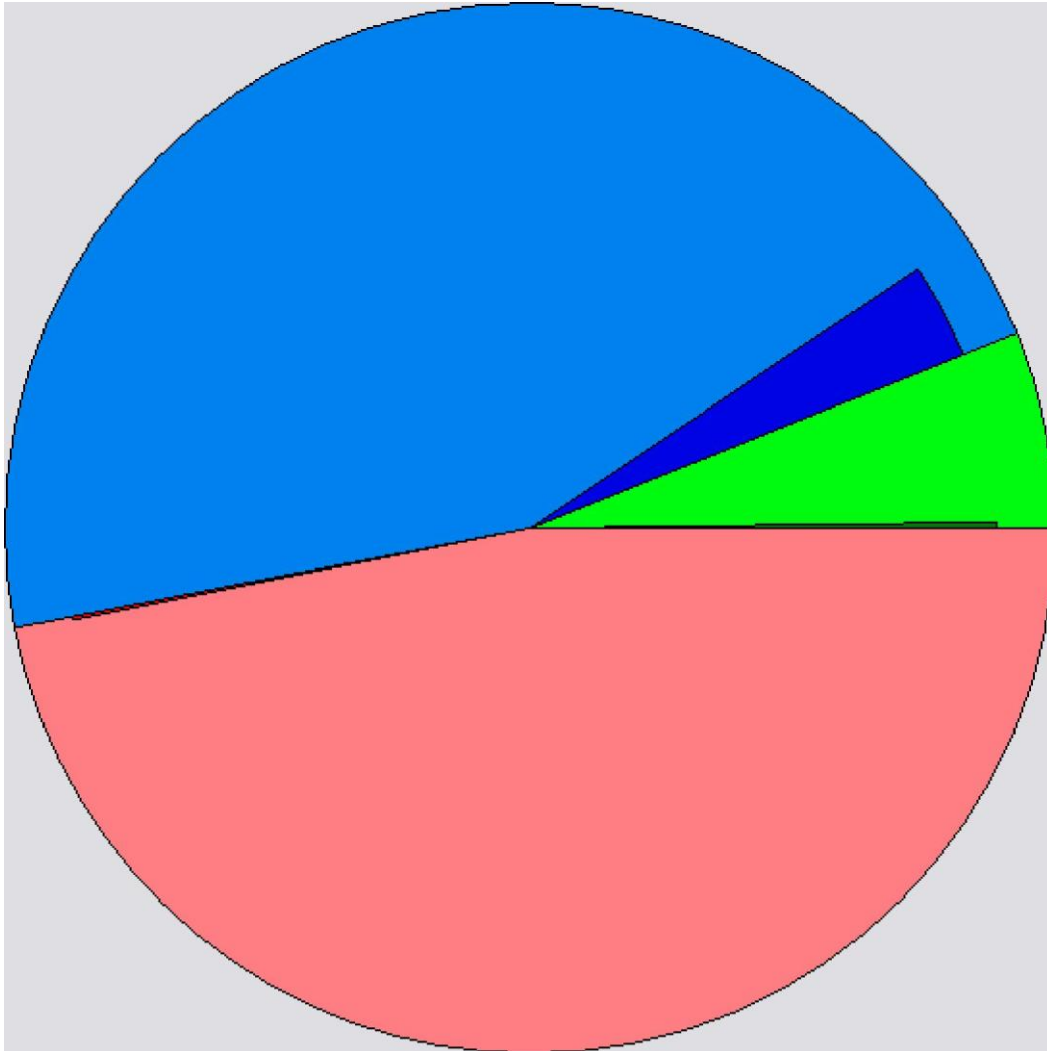

Fig.38
- Circle diagram of flash-memory use. By pressing left mouse button on the sector appropriated to maps or bands (blue and red sectors), hereupon capacity of dedicated sector is changing.(Fig.38)